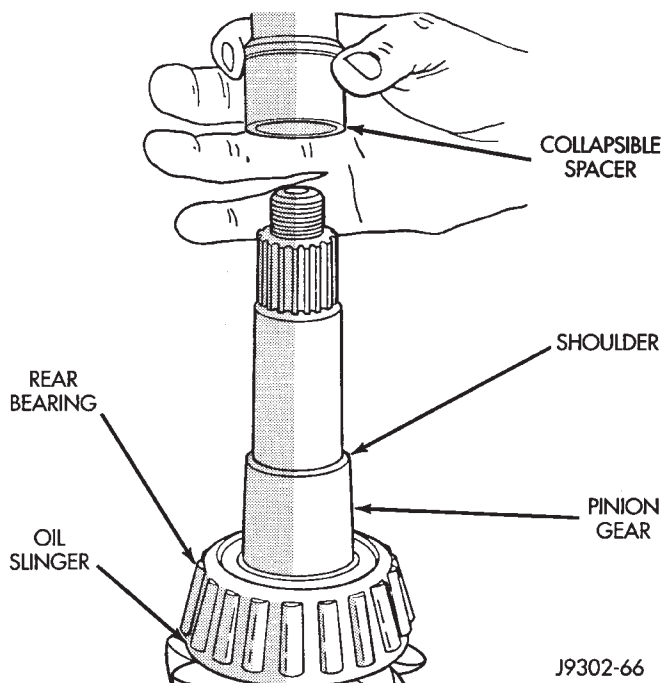

Fig. 23 Collapsible Spacer
(11) Remove the collapsible preload spacer (Fig. 23) from 248 RBI pinion gears.
(12) Remove the solid shims from 267 RBI pinion gears.